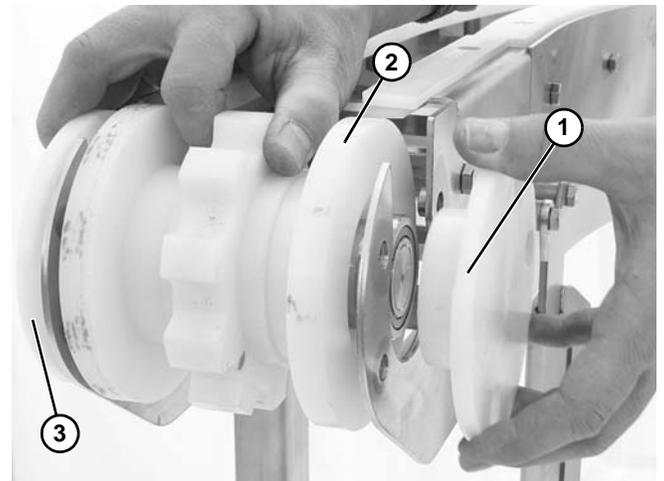

Figure 38
3. Remove bearing housing (**Figure 38, item 1**).
4. While holding onto idler pulley assembly (**Figure 38, item 2**), remove bearing housing (**Figure 38, item 3**) from opposite side and lift idler assembly from tail.